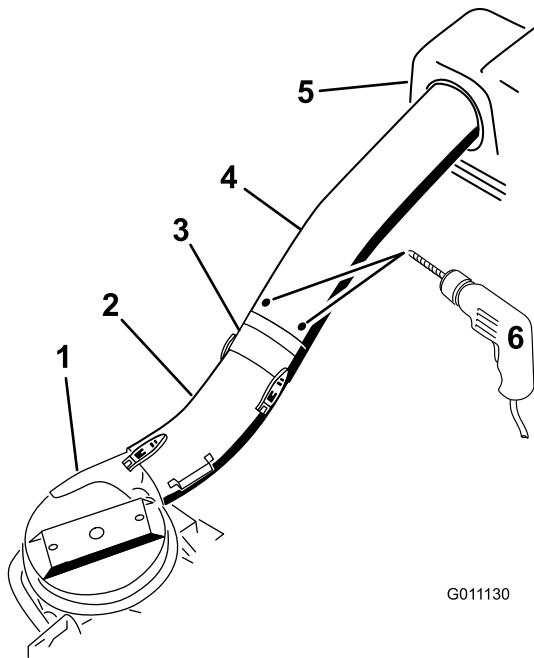

Figure 27
- 11. Using the three holes or indentations in the upper tube as a template, drill three holes (7/32 inch diameter) where the upper and middle tubes join together (Figure 27).